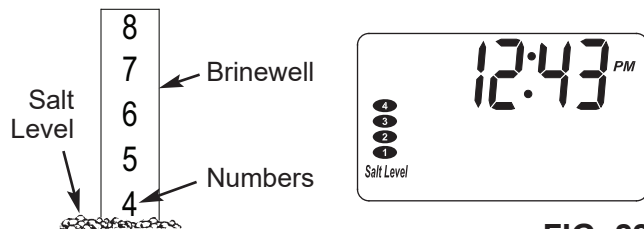

FIG. 22
3. Press the SET SALT LEVEL button until black ovals correspond to the salt level number (See Figure 22). At level 2 or below, the "Check Salt Level" light will flash.